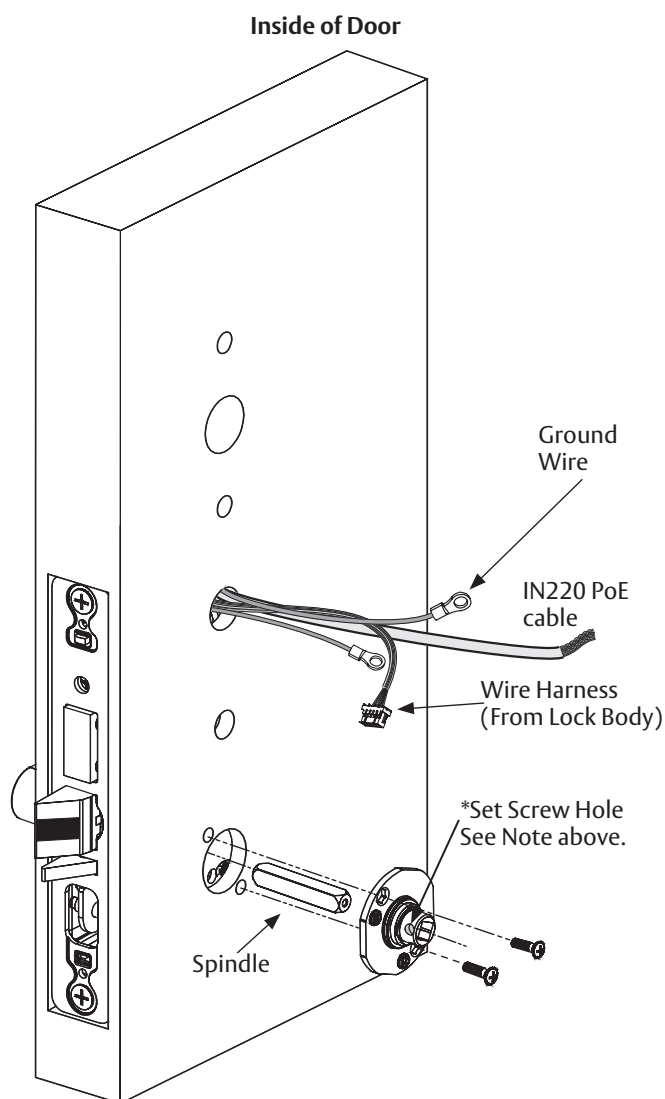

Figure 7-6B
2. On the inside of the door, insert spindle into square hole of mortise lock. (Figure 7-6B)
3. Slide inside adapter and plate assembly over spindle and secure with two (2) 8-32 x 5/8" Phillips oval head and lock washer machine screws.